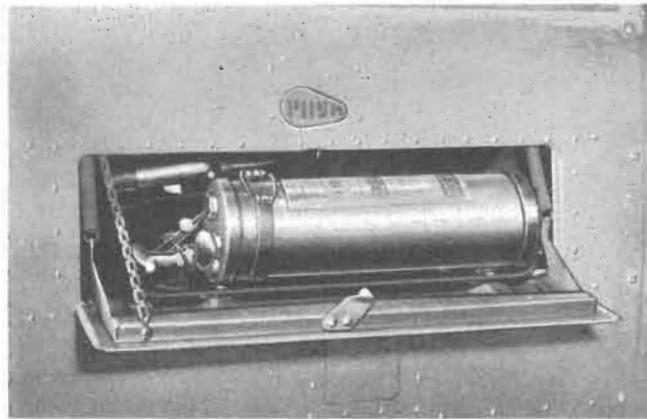

Figure 300 — Fire Extinguisher
k. **FIRE EXTINGUISHER.**—(See figure 300.)—A hand-operated carbon tetrachloride fire extinguisher is